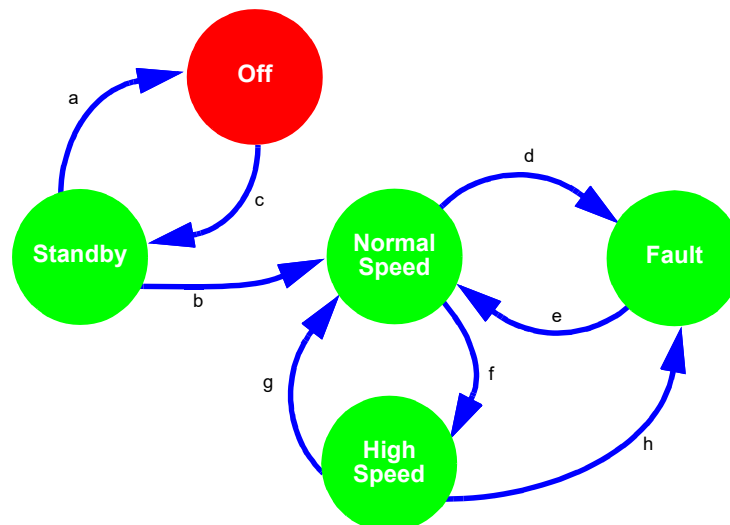

Figure 115: Asynchronous State Machine State Transitions
The Asynchronous State Machine macrocell is one of several macrocells in the Asynchronous State Machine Subsystem, and its specific role is to hold one active state at a time, and to facilitate user defined state transitions in a fast and power efficient manner. This macrocell is designed to allow the user to create state machines with between 2 to 12 states. When combined with the other macrocells in the ASM subsystem [four Dynamic Memory (DMx_x) macrocells, three Matrix Interface (MIx) macrocells, and one f(1) Computation Macrocell], the user has flexibility to define the available states, the available state transitions, and the input signals (a, b, c ...) that will cause transitions from one state to another state, as shown in the example in Figure 115.